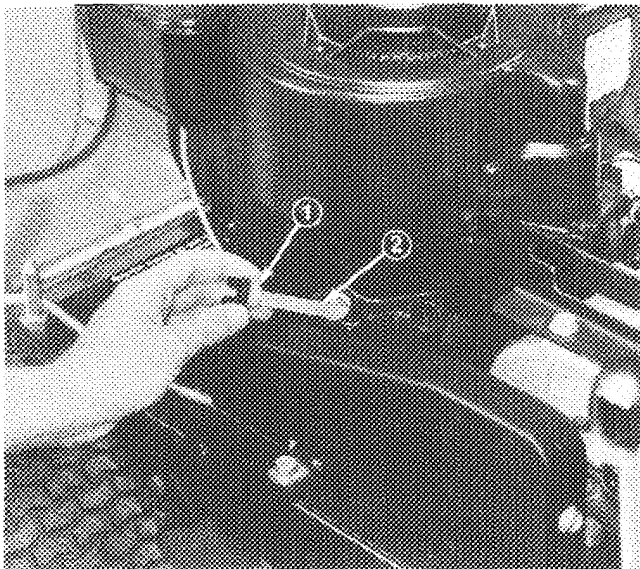

Figure 5
3. Remove dipstick plug from crankcase (Fig. 5).
4. Slowly, pour approximately 27 ounces (.80 l) of oil into crankcase (Fig. 5). The Tecumseh engine uses any high quality detergent oil having the American Petroleum Institute — API — "service classification" MS, SC, SD or SF. Oil viscosity — weight — must be selected according to anticipated ambient temperature.
5. Rock the rider gently to release any air that may be trapped in crankcase. Screw dipstick plug fully into opening in crankcase; then remove the plug and make sure that oil level is up to FULL mark on dipstick (Fig. 5). If level is low, add only enough oil to bring level up to FULL mark.